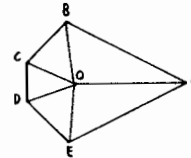

Figure 2
The polygon in Figure 2 is used to illustrate the method described below.
- (b) Project rays OA, OB, OC, OD and OE connecting the average with each vertex, forming elemental triangles as shown in Figure 2.